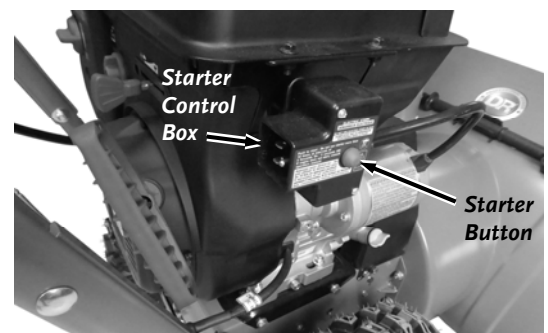

Figure 31
5. Connect the required Heavy-Duty extension cord into the Snow Blower Control Box (**Figure 31**) and plug the Extension cord into a 120V outlet.